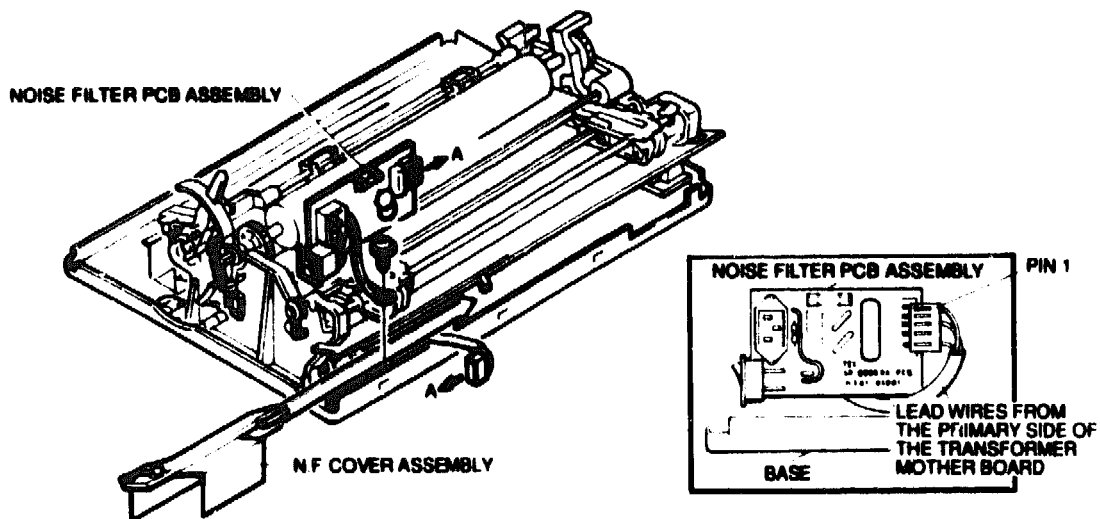

Figure 6-7 Removing and Replacing the Noise Filter PCB Assembly
10. Slide the Noise Filter PCB Assembly locking strip to the left until it is clear of the mechanism (lift the catch on the inner end to free it). See Figure 6-7.
Voltage selection is achieved by rotating the plug CN1 (see Figure 6-7). The wire colour location for the voltage selection is as follows: